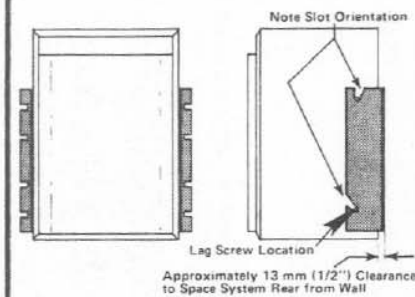

FIGURE 2
1. Vertical mount with bracket wings outboard (see Figure 2).
All mounting methods involve using the bracket as a template for locating the 1/8 inch diameter lag screw pilot holes used to affix the brackets to the Sentry 100. It is important to attach the appropriate bracket of the pair to the correct side of the system. This is done by selecting the brackets so that the two angled slots for the lag screws have their open ends facing what will be the system's top when mounted. Figures 2 and 3 illustrate brackets attached for vertical system mounting. Horizontal mounting involves placing the brackets on the small sides of the Sentry 100 in a similar manner and is not illustrated. The outboard bracket wing arrangement (see Figure 2) simplifies the use of mounting hardware as all fasteners are readily accessible to the installer. The inboard bracket wing arrangement (see